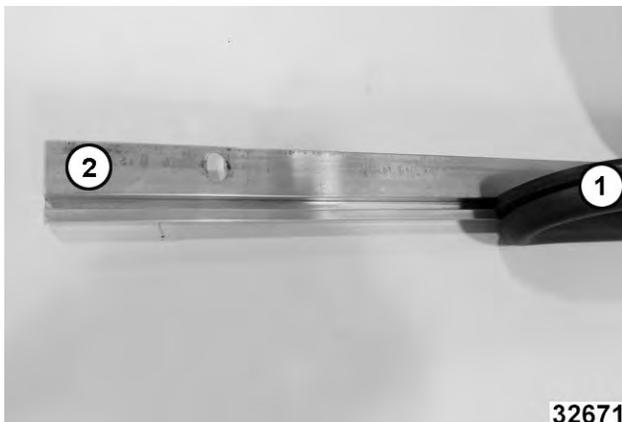

Fig. 28
3. Remove gasket (1, Fig. 28) from retainer (2, Fig. 28).